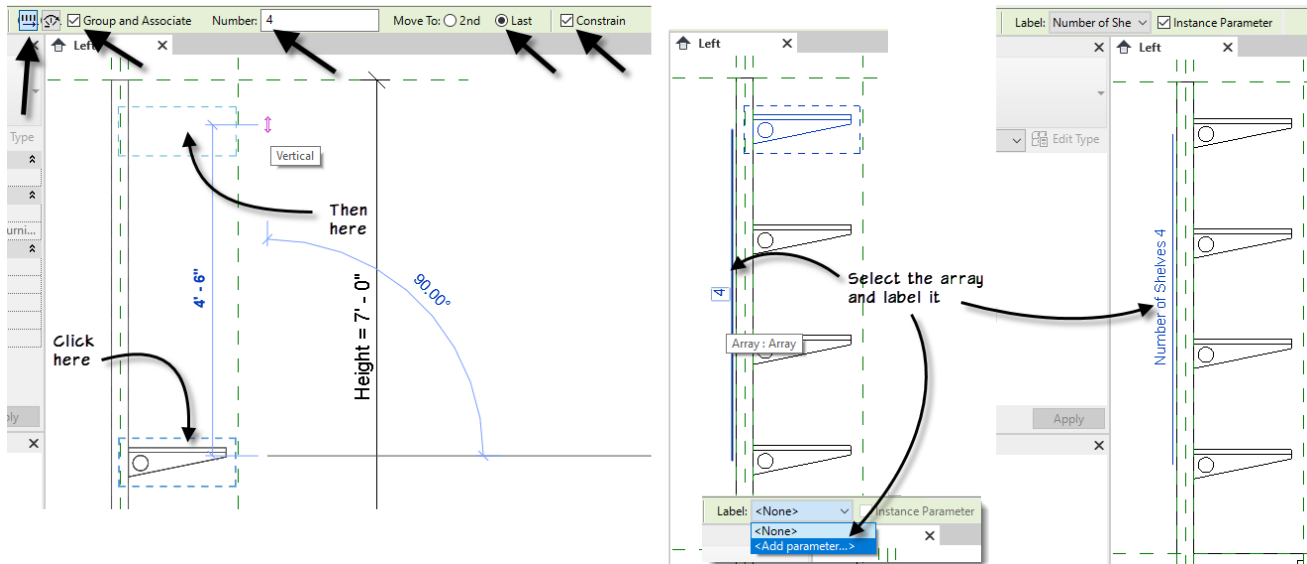

Figure 31
2. On the Options Bar, verify that the **linear** icon and that the **Group and Associate** checkbox are both selected. Change the Number to **4**, choose the **Last** option and check **Constrain** (See Figure 31).